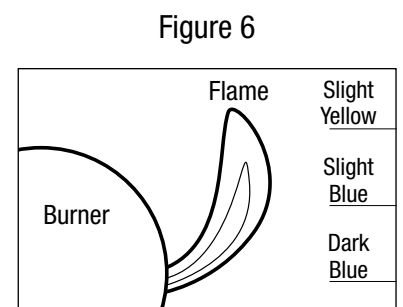

Figure 6
- After lighting, observe the burner flame. Make sure all burner ports are lit and flame height matches illustration (Figure 6).
9. After lighting, observe the burner flame. Make sure all burner ports are lit and flame height matches illustration (Figure 6).